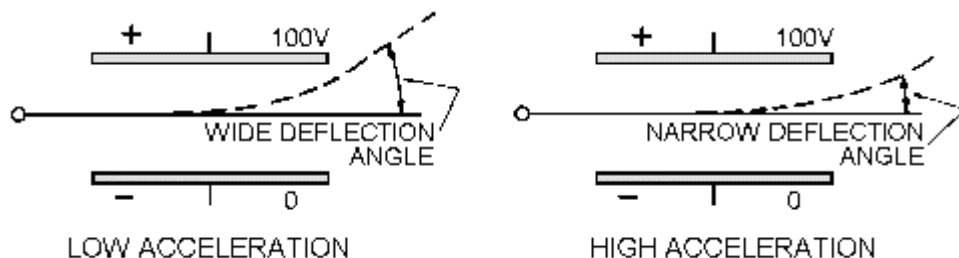

Figure 6-6.—Beam acceleration.
**BEAM ACCELERATION.**—The faster the electrons are moving, the smaller their deflection angle will be, as shown in figure 6-6.